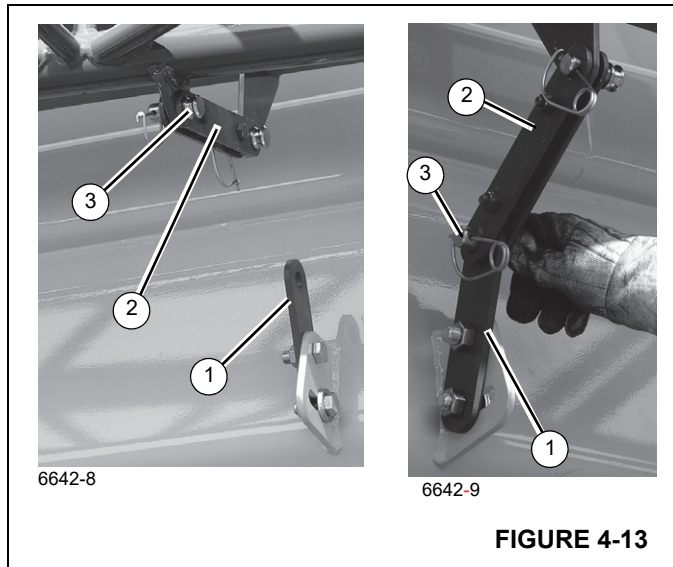

FIGURE 4-13
11. Move locking bar (9, Figure 4-20; 2, Figure 4-13) to boom base attachment bar (1) and install pin (3). Secure with retaining clip.